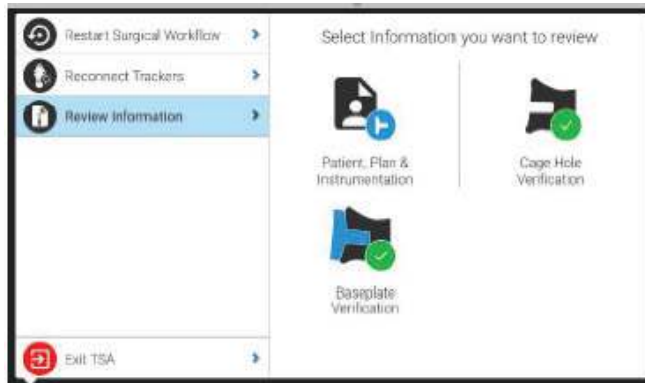

Figure 54
**Note:** You can always review the plan by pressing the menu button and selecting "Review Information" from the pop-up menu on the left (Figure 54).